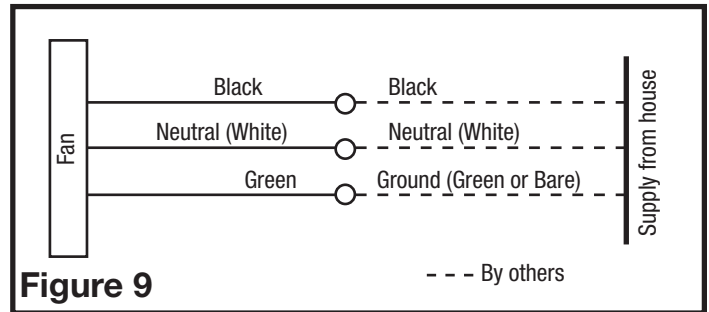

Figure 9
- 3b. From where you have chosen to access the fan's junction box, connect the white wire from the house to the white wire from the fan's receptacle. Connect the black wire from the house to the black wire from the fan's receptacle. Connect the ground wire from the house to the green wire from the fan housing (**Figure 9**). A manual override switch (not included) can be used to provide a manual fan Off function. Use approved methods for all connections.